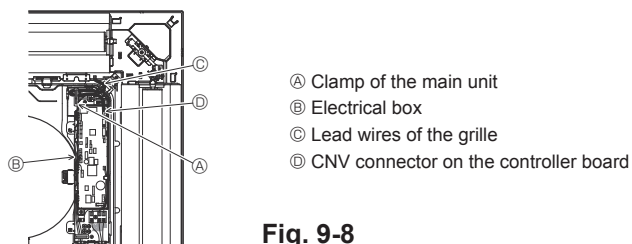

Fig. 9-8
9.4.4. Wire connection (Fig. 9-8)